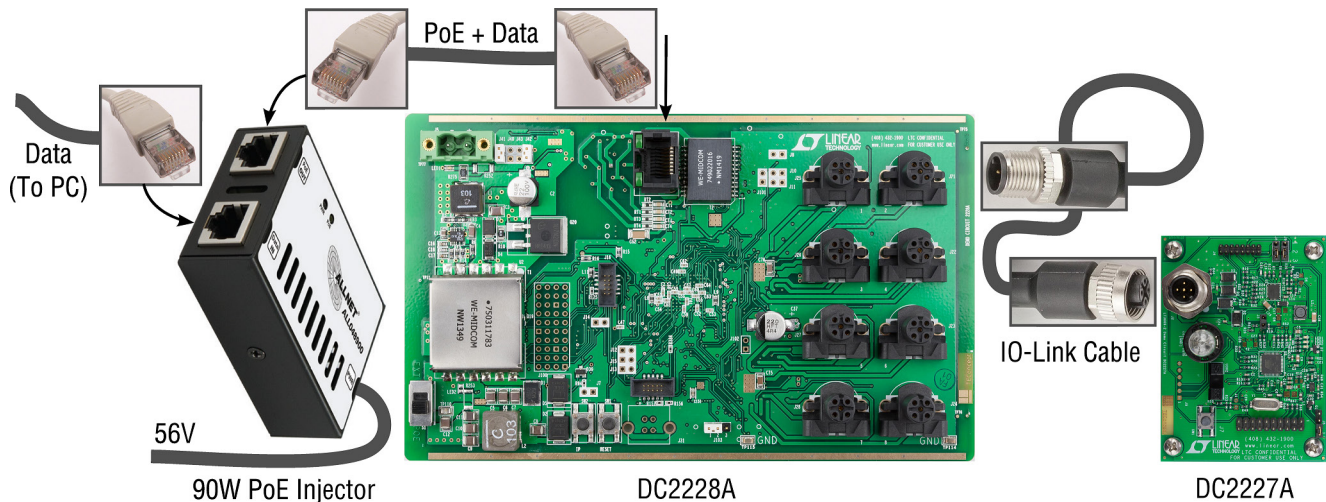

Figure 1. Recommended Set-up for Operating DC2227A in IO-Link Mode
Set-up Preparation (See Figures 1 and 2)
3. Using a 3-wire IO-Link cable of up to 20m in length with M12 connectors, plug the male terminal to one of the 8-ports of the DC2228A (for example port 2 like in Figure 1) and the female terminal to the DC2227A.
Operation in IO-Link Mode (See Figures 1 and 2)